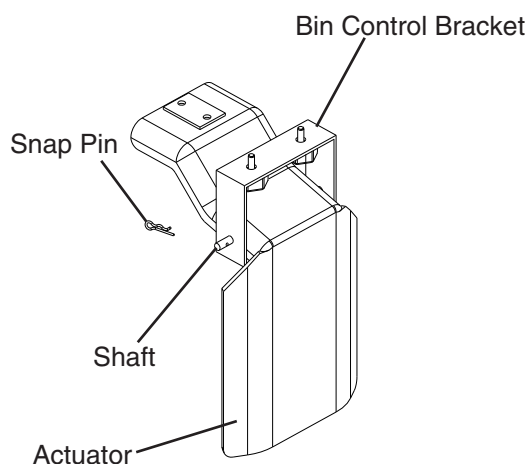

Fig. 6
6. Remove the snap pin, shaft, and actuator. See Fig. 6.